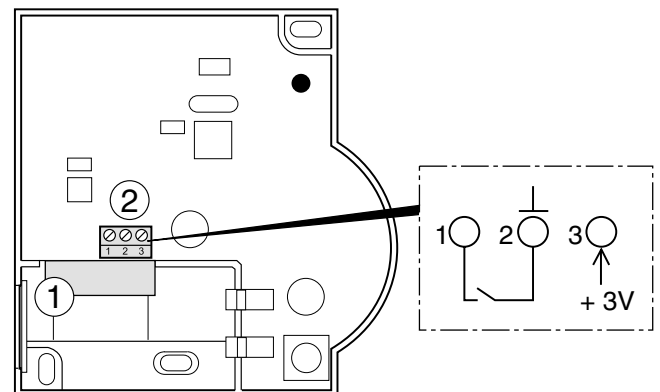

Fig. 7: Connection of the external power source (only HCW 82)
**i** The maximum permissible cable length from the power supply unit to the device amounts to 100 m. If possible, use a cable of the type JE-Y (ST)Y 2x2x0.8 mm or JE-LIYCY 2x2x0.5 mm2.
- ▶ Lead the outlet cable of the power supply unit through the housing opening (1) (see Fig. 7) to the inside.
- ▶ Connect the outlet cable to the terminal (2) (see Fig. 7).
- ▶ Connect any sensor with floating contact to the HCW 82 (installation to connection 1 and connection 2, see Fig. 7(2), Page 9).